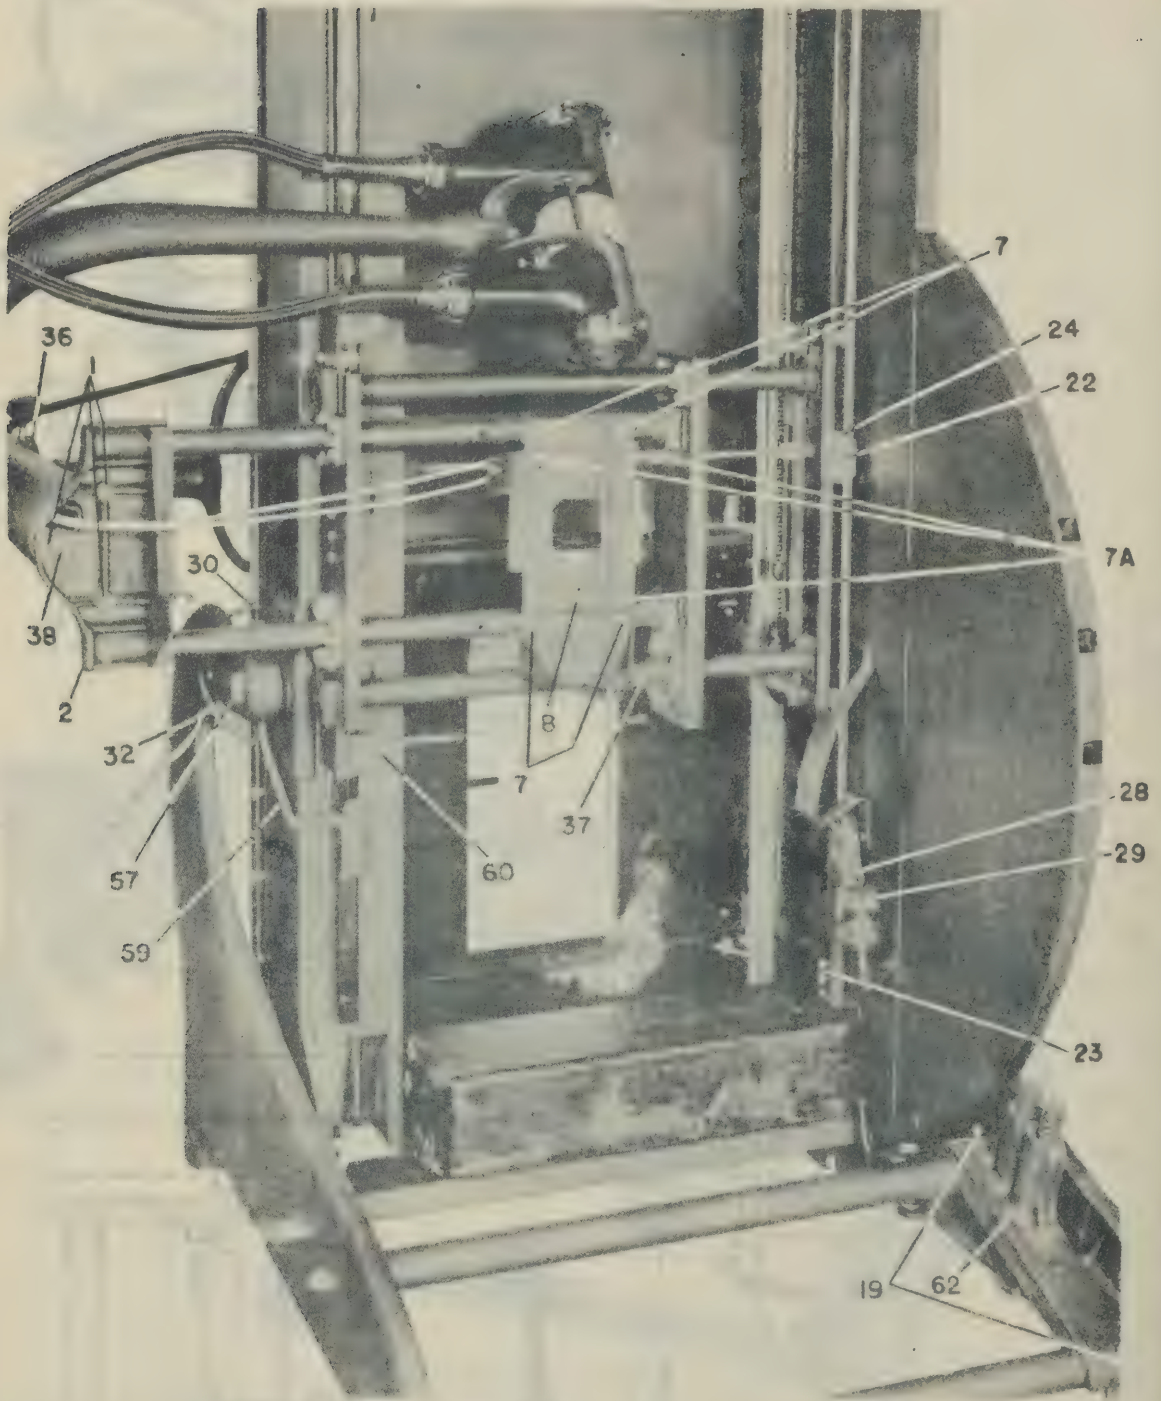
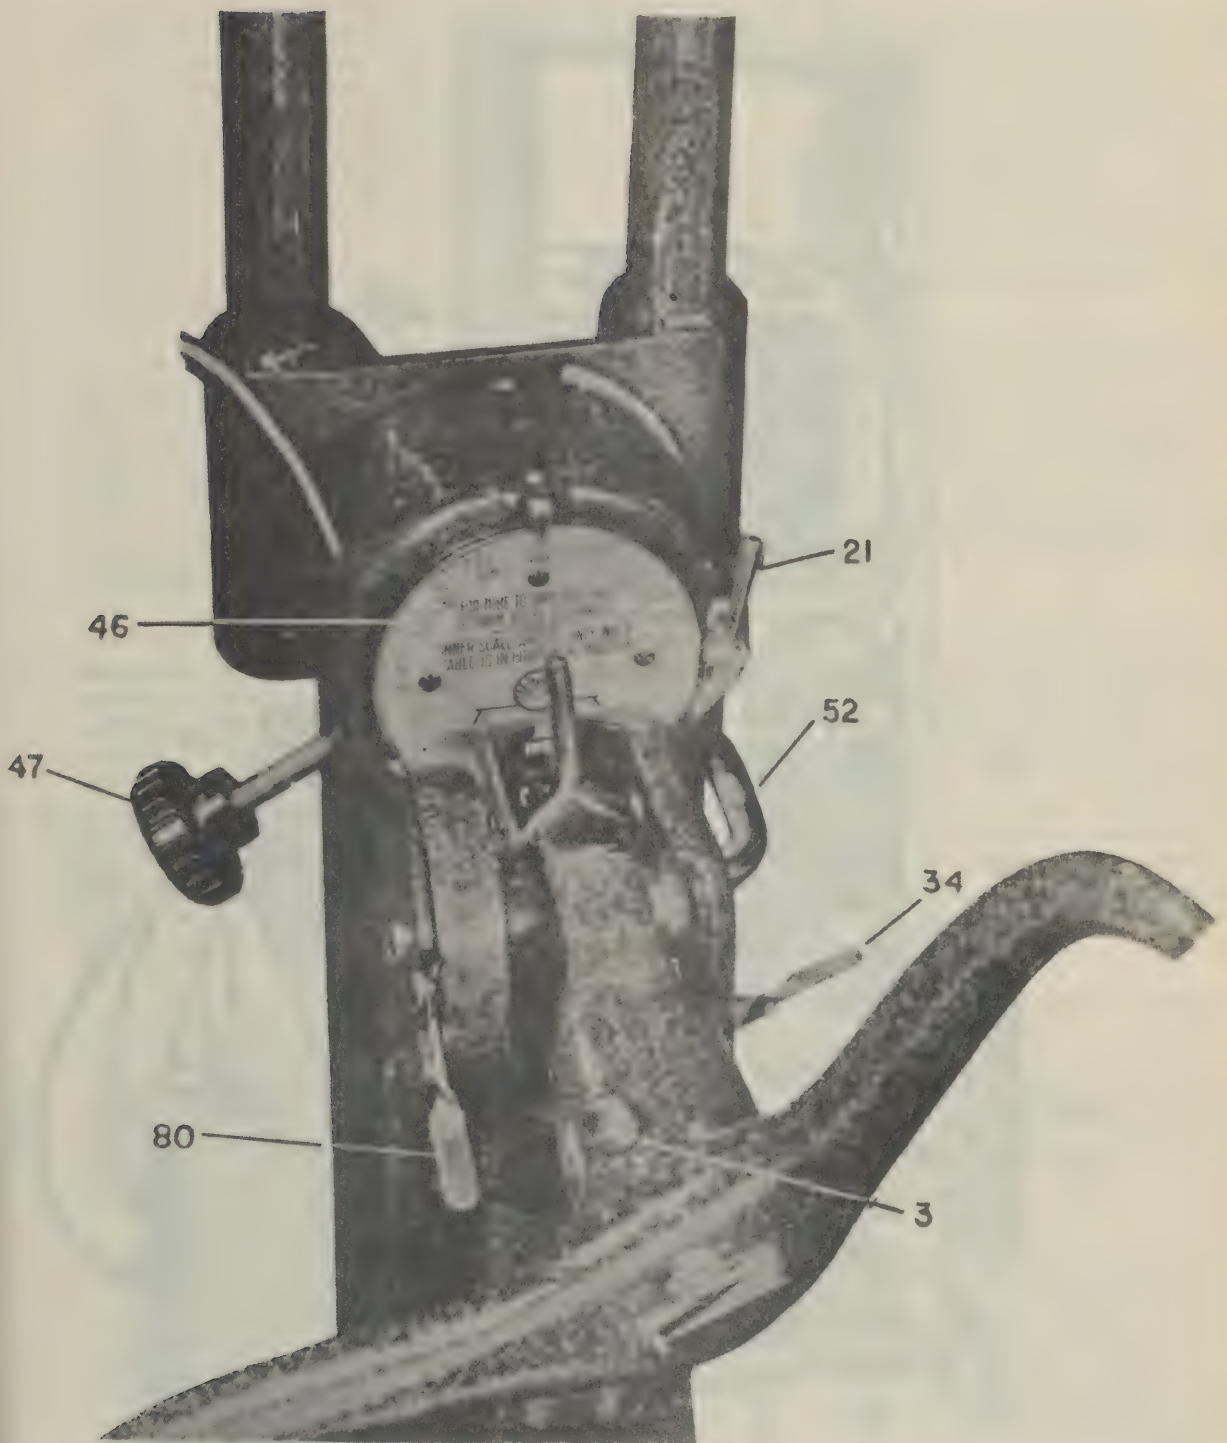
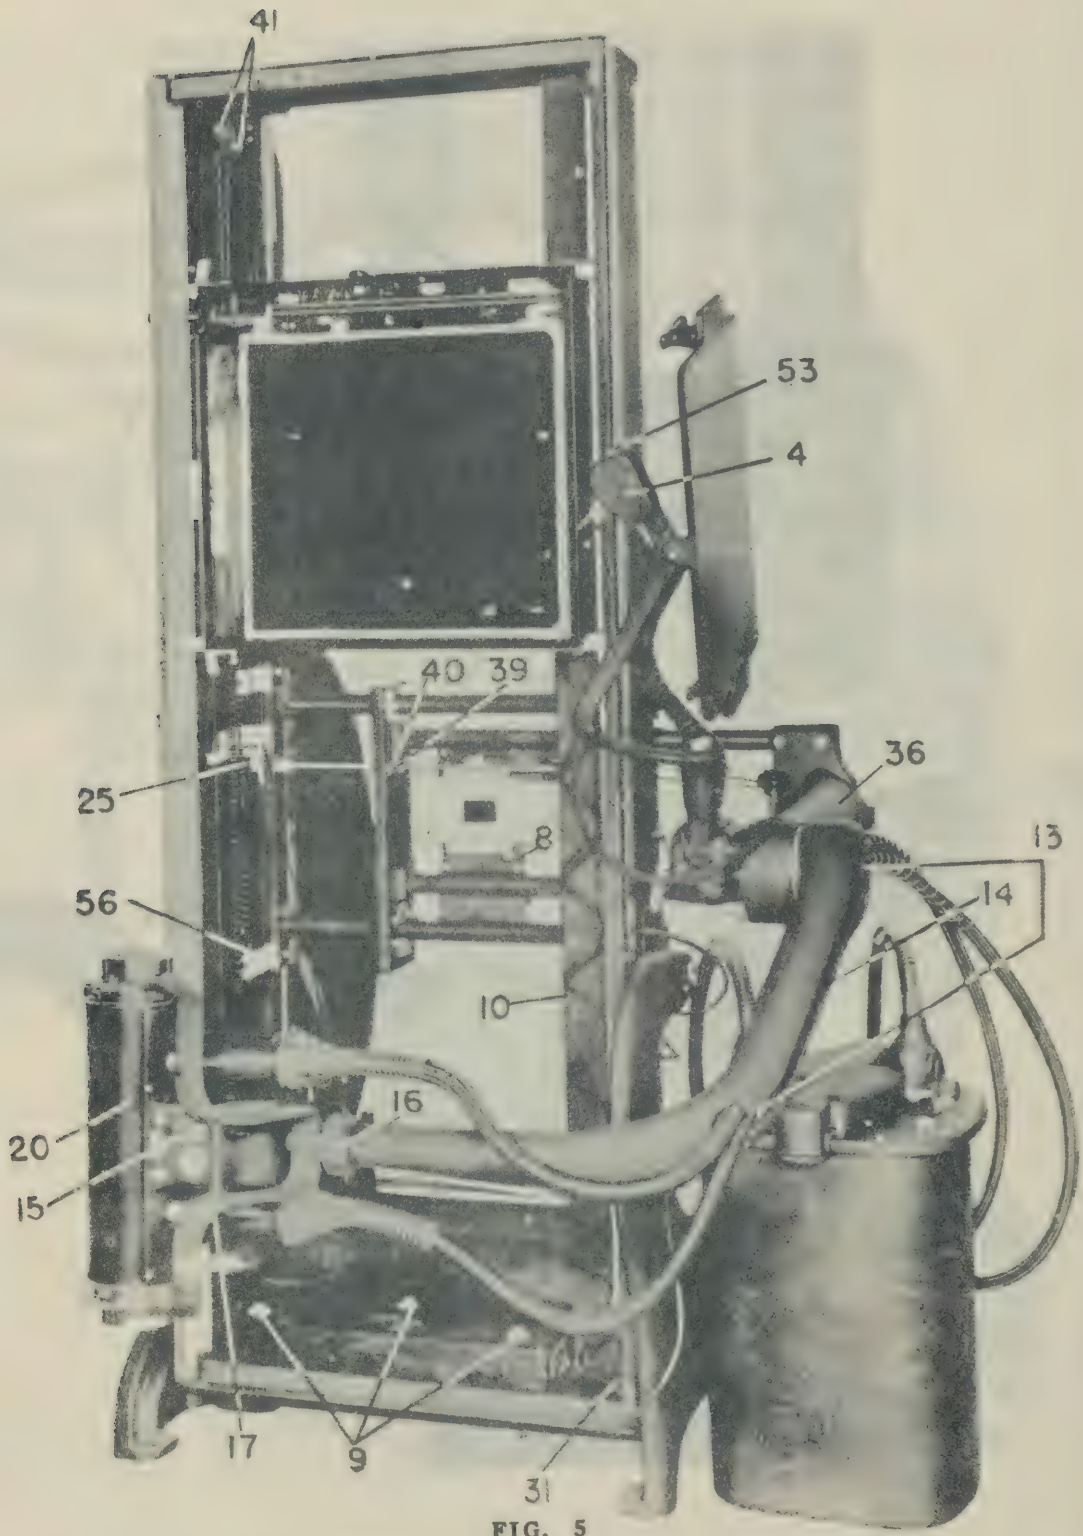
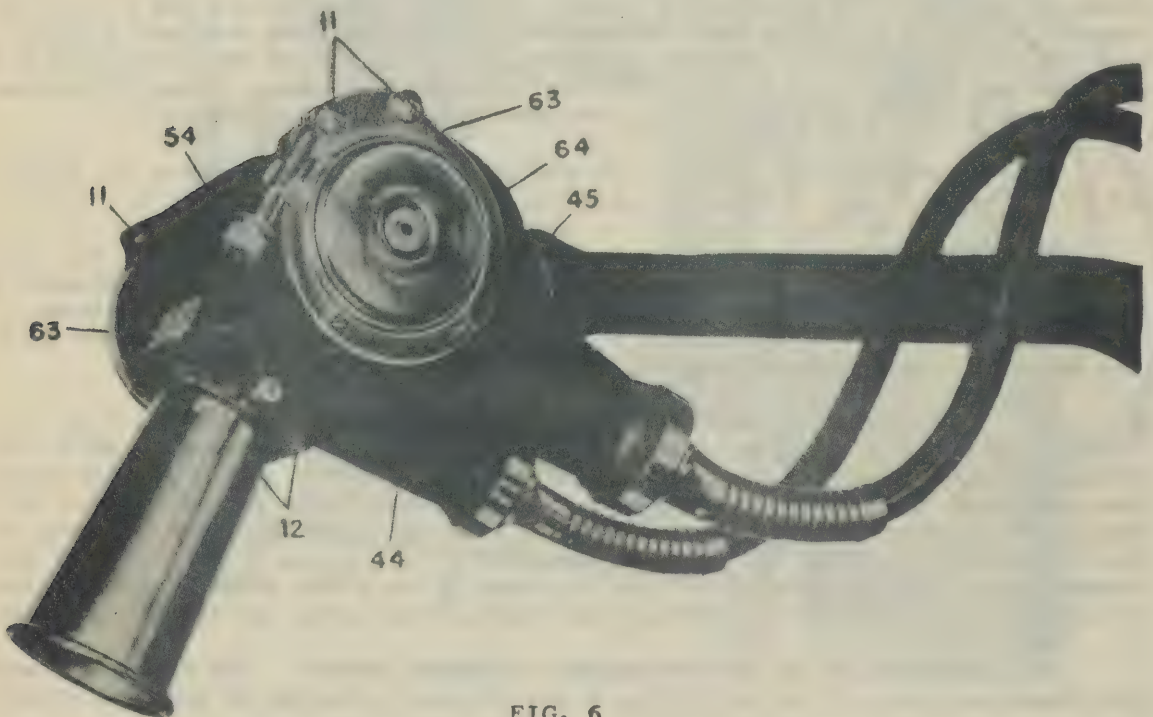

FIG. 3
FIG. 4
FIG. 5
FIG. 6
6. Remove the table top. Remove the machine screw from the Bucky chain at the bracket on the Bucky. Keep the screw in the chain to mark the point of attachment when replacing the Bucky. Now support each end of the table on boxes, being sure to protect the finish with rags against abrasion. Remove the counterweight locking screw #10 Fig. 5 and move the horizontal carriage to the foot end. This must be done in order that the counterweight clear the rear pivot. Tie the carriage securely to the foot end of the table. Extreme care must be observed in removing the clutch assembly. Proceed as follows:
Remove the snap ring found at the extreme end of the clutch assembly and the pin through the shaft. Remove the clutch face; remove the 10-32 screw and retaining clip found at the side of the driving mechanism #56 Fig. 5. Carefully remove the driving gear and the toothed ratchet found beneath the driving gear. Do not make any attempt to remove the drive shaft for the Bucky from the pivot #58 Fig. 1, but push it in until it is flush with the outside of the pivot #58 Fig. 1, at the bottom of the slot. The above must be done, otherwise the friction springs on the inside of the drive shaft are apt to be lost. Now with a heavy screw driver, remove the pivot #58 Fig. 1 from the Bucky driving mechanism housing, and with a piece of wood or other soft material drive the rear and front pivot shafts clear of the table body.
7. Replace the rear pivot bearing #57 Fig. 3 through the head on the inside of the table body, keeping the spring washer between the table body and the rear leg, with the external diameter bearing against the face of the leg. Replace nuts and tighten securely. Replace the front pivot with its head on the outside as shown in #58 Fig. 1 and the spring washer between the body and the front leg as described above. Replace the key washer over the pivot on the inside of the table body and with a heavy screw driver tighten the pivot into the driving mechanism housing until the hole in the housing, the key washer, and the tapped hole in the table body line up. Be sure that the front pivot has been securely tightened. Now by means of a small screw driver, push the drive shaft on the inside of the pivot #58 Fig. 1 through from the front until the threaded end is just flush with the outside of the driving mechanism housing. Replace the ratchet with the flares of the teeth
8. If the door is less than 31" in width, then the horizontal carriage must be removed. Proceed as above by removing top, and base assembly. However, before this is done, the horizontal carriage should be removed. Disconnect the counterbalance cables at either end of the weight. After the Bucky chain has been removed, remove the two bearings #60 Fig. 3 at either end of the rear horizontal carriage and remove the carriage from the table. Be extremely careful about marring the finish of any parts. THE COUNTERWEIGHTS MUST BE LOCKED IN POSITION BY MEANS OF THE LOCKING SCREW #10 Fig. 5 BEFORE ANY ATTEMPT IS MADE TO TILT THE TABLE OR MOVE IT THROUGH A DOORWAY.
9. ASSEMBLY OF TUBE STAND - The tube stand support is packed with the diaphragms, tube stand and screen counterbalance housing. Extreme care should be observed in unpacking this assembly when attempting to rotate the tube stand in the support, #36 Fig. 5, since the tube stand is spring counterbalanced and without the weight of the x-ray tube and the cables the arm is apt to open with great speed and injure the mechanism or the assembly. It is best to install the tube stand and its support as received. Remove the three nuts and lock washers #1 Fig. 3 from the studs of the tube stand support, #36 Fig. 3. If any shim washers are present be careful that they remain on their respective studs between the tube stand support and its mounting bracket. Insert the studs of the mechanism carefully into the holes of the bracket #2 Fig. 3, replace the lockwashers and nuts. Draw the nuts up firmly being careful not to strip the threads in the tube stand support.
Remove the four hex head cap screws, lockwashers, and index plate from the back face of the counterbalance housing. Insert the cap screws with lockwashers into the four holes of the tube arm, place the index plate #46 over them as shown in the illustration Fig. 4, and tighten the screws firmly, being careful not to strip the threads in the counterbalance housing.
11. ATTACHING THE SCREEN - Loosen the retaining screw #3 Fig. 4 on the screen hanger until the pivot hole is clear. Note that the casting to which the screen hanger fits has a groove, machined around its diameter, and in the bottom of the groove are two fillister head screws. The above mentioned retaining screw fits down in this groove holding the screen hanger in place, and the two small screws in the groove act as stops to limit the rotation of the screen. Be sure that the screen hanger has been forced all the way down on the pivot casting and that the screen is in the correct operating place before tightening the retaining screw.
12. INSTALLATION OF DIAPHRAGMS AND DIAPHRAGM CONTROL - The diaphragms and the diaphragm control cables #4 Fig. 5 are shipped attached to the tube stand.
14. Before attaching the shutters, tilt the table to the vertical. This must be done carefully since the table is unbalanced and the head end will tend to fall. It should be left in the vertical until after the foot end counterweight is installed. Remove the four screws #7 Fig. 3 from the under side of the center rails of the horizontal carriage. Place the pan #8 Fig. 3 in position over these holes with the offset down as shown, and fasten temporarily in position with the screws.
17. Move the foot end counterweight to the front of the table with the heavy section next to the table and facing up. With sufficient help and a crowbar, or hooks inserted into the holes or slots provided, lift or pry the weight into position. The counterweight is secured to the table with three 1/2-13 hex head cap screws #9 Fig. 5 with a large flat washer under the head. Tighten these screws securely. Replace table top and tilt back to horizontal.
18. **COUNTERBALANCE LOCK** - The fluoroscopic carriage counterweight is locked in position for shipment by means of hex.head screw through the side of the counterweight housing at #10 Fig. 5. To unlock the counterweight simply remove this bolt. If for any reason the table is ever moved or shipped, this weight must be locked. The horizontal carriage should move freely over its entire range on the table.
19. **MOUNTING X-RAY TUBE ON TUBE STAND** - Mount the tube support rings on trunnions #63 Fig. 6 to the tube hanger #64 Fig. 6 by means of the screws #11 as shown, leaving the screws loose.
20. Screw the cone support #12 Fig. 6 to the tube by means of the four screws furnished as shown in Fig. 6.
22. In order to install the high tension cables, remove the cable clamps by means of the two screws at the back of the tube stand #13 Fig. 5. Insert the cable terminations in the tube housing and insert the cable in the slot #14 Fig. 5 of the tube stand, allowing sufficient loop between the tube and the entrance at the tube stand. Approximately 37" of loop should be provided. Lay the cables in the groove provided for them in the tube stand and replace the upper cable clamp and tighten the screw. It will be noticed that the cables have springs which limit the radius the cable can assume when the tube stand is rotated. Each spring has a long termination at one end. These terminations should be arranged on either side of the tapped hole for the lower cable clamp and the clamp placed over them in such a manner that the spring termination will be between the tapped hole and the turned down flange of the clamp. The clamp should be placed so that the flange will face the table and be on either side of the boss in the tube stand. Then the spring cannot pull out since one side is held by the screw and the other side by the flange on the clamp. Tighten the clamp screw securely.
30. SCREEN PIVOT LOCK - If the screen pivot lock #34 Fig. 4 fails to engage automatically and positively in both positions over the table and away from the table, then remove the set screws at #35 Fig. 4. Keep the screen over the table and adjust the set screw found under the one removed, until the lock #34 engages properly and positively. Swing the screen to the rear of the table and adjust the screw at #35 Fig. 4 as outlined. Replace the set screws and tighten firmly. If the screen is not parallel with the head end of the table, loosen the three nuts #1 Fig. 3 and swing the screen in the proper position. Tighten these nuts securely. If the tube stand does not stand perpendicular to the table top and is not centered over the Bucky, then remove the nuts #1 Fig. 3 and place shim washers (see Paragraph 9) between the tube stand support #36 Fig. 3 and the bracket #2 Fig. 3. These washers must be 3/4" O.D. or less.
31. CENTERING X-RAY TUBE WITH SCREEN - Place the table in the horizontal position. Loosen slightly all the screws #7 and #7-A Fig. 3. Place x-ray tube in fluoroscopic position as described in Paragraph 49 and position the shutter support plate until the tube is approximately centered with the slots of the diaphragms. Check and make all final adjustments fluoroscopically. When the final position of the shutters has been determined, then tighten the screws #7 and #7-A and adjust the bumper #37 Fig. 3 against the tube and lock firmly. Recheck fluoroscopically with table in horizontal and vertical.
32. TUBE STAND COUNTERBALANCE - If the tube stand is unbalanced as it is brought under the table from radiography to fluoroscopy, adjust the nuts #38 Fig. 3 accordingly. BE SURE, AFTER ADJUSTMENT, THAT THESE NUTS ARE TIGHT.
33. TRAVEL LOCKS - For the adjustment of the longitudinal lock, loosen the nut at #25 Fig. 5 and adjust the slotted screw until the lock operates easily. Tighten lock nut.
34. For the adjustment of the lateral lock, loosen the two screws at #39 Fig. 5 and move the lock housing #40 Fig. 5 in the serrated plate, one notch at a time until the proper adjustment has been secured. Tighten the screws.
35. BUCKY CHAIN - If it should be found desirable to tighten the Bucky lifting chain, the sprocket at the head end of the table can be adjusted. Loosen the two nuts #41 Fig. 5 on the side of the sprocket housing and move the housing back, until the slack is removed from the chain. Then tighten the nuts firmly.
37. SHUTTERS - To adjust the shutters, turn the fittings of the shutter wire terminations inside the housing #4 Fig. 5. A slight adjustment at this point will usually be found sufficient although it may be necessary to adjust the screw #53 Fig. 5 for final position of levers.
48. **TILTING THE TABLE-HAND TILT CENTURY** - When the table is in the horizontal, and the tube in the radiographic position as shown in Fig. 1 and if it is desired to place the tube in the fluoroscopic position, the screen should be positioned over the table and the carriage moved to the extreme head end of the table. The axis of the tube should be placed in the horizontal plane, that is the scales #44 and #45 Fig. 6 should be set at zero, and the lock #54 Fig. 6 tightened, and the radiographic cone removed. The tube stand can now be unlocked at #21 Fig. 4 and the tube stand with the tube rotated into the fluoroscopic position. If the tube is rotated incorrectly, that is, the tube is not in the proper position in respect to the tube stand or the carriage mechanism is not at the extreme head end of the table, it will interfere in passing under the table. After the tube is under the table, the screen can be swung away from the table to position the patient.
49. To simplify the positioning of the patient, we strongly recommend that the habit be formed of unlocking the pivot #34 Fig. 4 and rotating the screen rather than raising the weight of the screen.
50. Fig. 4 shows the screen counterbalance housing with the stepless compression lock. In order to operate the lock depress the lever 80 Fig. 4 as shown. This places the locking pawls in the "lock position" and prevents the screen from being raised. To release the lock lift the lever "80" as far as it will go, thereby releasing the pawls and freeing the screen for movement to and from the table top. In order to release the compression lock under a high degree of compression it may require a slight downward movement of the screen toward the table top.
54. The operation of tilting the tube stand either side of center can best be performed from the rear side of the table. It can be done with the screen positioned over the table, or rotated clear of the table, but the screen should not be raised away from the table top. The scale #46 Fig. 4 indicates the Bucky focal distances and also the vertical distance of the tube to the floor. If it is desirable to work at focal distances other than 30" or 37", the tube stand must be locked by means of the lock knob #47 Fig. 4.
that vertical dimension of cassette. The distance indicated is then the center of the cassette to the floor. Returning to the tube stand, move the fluoroscopic radiographic assembly to the extreme head end. Rotate the tube stand above the table top and rotate the x-ray tube to point toward the cassette holder and set the scale #44 Fig. 6 on zero. Then position the tube stand such that the scale #46 Fig. 4 reading inches to the floor coincides with that read on the cassette holder. Then retain this position by tightening the lock knob at the pivot of the tube stand. A slight lateral adjustment of the fluoroscopic radiographic carriage may be necessary in order to align the target with the center of the cassette. A notch is provided in the carriage cross rail and a slight bump may be felt which indicates that the carriage and the x-ray tube is at the center of the table. The desired focal distance to the wall can then be obtained by moving the fluoroscopic radiographic carriage in the table. If desired, a mark can be made on the operating side of the table to coincide with the lock handle #52 Fig. 4 which will establish the desired focal distance for future use. The above procedure can be followed for both chest and stomach work.
60. VERTICAL RADIOGRAPHY - For vertical radiography, it is necessary that the screen be moved away from the table in order to stand clear of the tube. Before tilting the table, position the tube stand to the right or left, or at the center depending upon which part of the body a radiograph is desired, and depending also upon the focal distance. It is not advisable to work at any other focal distance than 30" or 37", at which points the plunger lock #21 Fig. 4 operates.
61. After the tube stand position has been determined and locked, the screen should be moved away from the table as far as it will go, and when raised or lowered, a pronounced click will be heard. This is an automatic lock which locks the screen so that it can not swing on the counterbalanced pivot when the table is tilted to the vertical. Be sure that the lock #34 Fig. 4 definitely engages the screen swivel before the table is tilted.
63. VERTICAL FLUOROSCOPY - For vertical fluoroscopy, place the tube in the fluoroscopic position with the table in the horizontal as described in Paragraph 48, and with the screen over the table and locked, tilt the table to the vertical. To disengage the screen counterbalance, pull the screen as far as it will go away from the table top and hold the lever #52 Fig. 4 away from you toward the table top, and while depressed move the screen toward the table. If this operation is properly performed, it will be found that the screen will swing to and from the patient freely and without any counterbalance action. To restore the counterbalance action, and before the table is tilted to the horizontal, the screen
64. **OPTIONAL ADDITIONAL EQUIPMENT-HORIZONTAL STEREO-SHIFT** - Remove the lock bracket #22 Fig. 3 and fasten the shift rod and mechanisms through the two holes found at either end of the track #23 Fig. 3. The spring mechanism must be at the foot end of the table as shown in Fig. 3. Replace the bracket #22 making sure that the lip engages properly with the compression stamping #24 Fig. 3. Loosen the lock nut #25 Fig. 5 and back out by means of a screw driver the slotted screw in the housing unit the shift rod is just locked to the carriage. Tighten lock nut #25 Fig. 5.